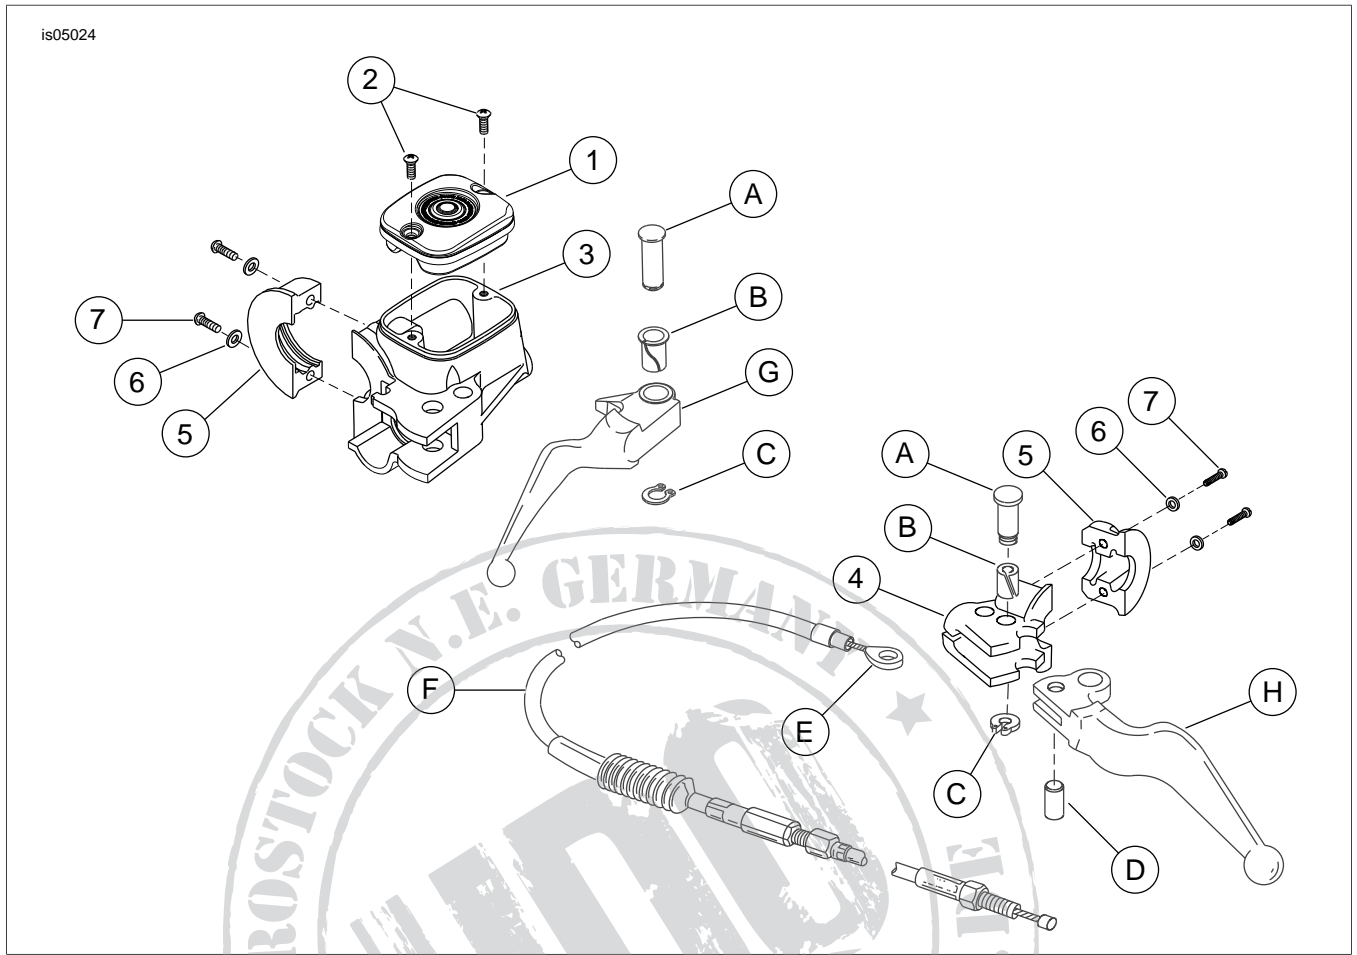

Figure 6. Service Parts: Chrome Master Cylinder Kit
See Figure 6 and Table 1.
- See Figure 6. Using T-27 TORX® drive head, remove the two screws with flat washers securing the handlebar clamp to the master cylinder housing. Remove the brake lever/master cylinder assembly and clamp from the handlebar.
3. See Figure 6. Remove the clutch cable anchor pin (D) from the hand lever (H). To remove anchor pin, it will be necessary to remove the retaining ring (C) and pivot pin (A).
4. Remove clevis (E) and clutch lever.
1. See Figure 6. Install the clutch cable (F) and anchor pin (D) in the clutch hand lever (H). The flat in the pin must face in towards the hand lever.